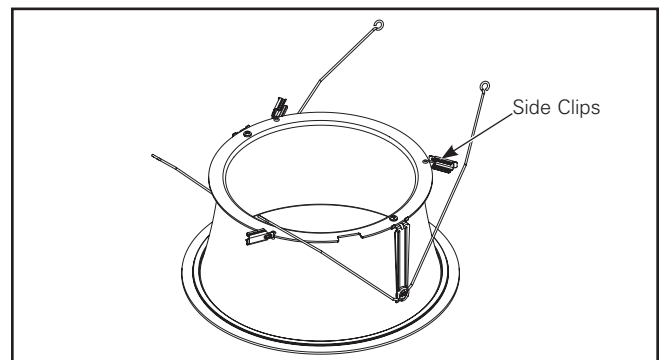

Figure 36.
3. Remove trim assembly from protective packaging and rotate side clips (3) outwards. (Figure 36).